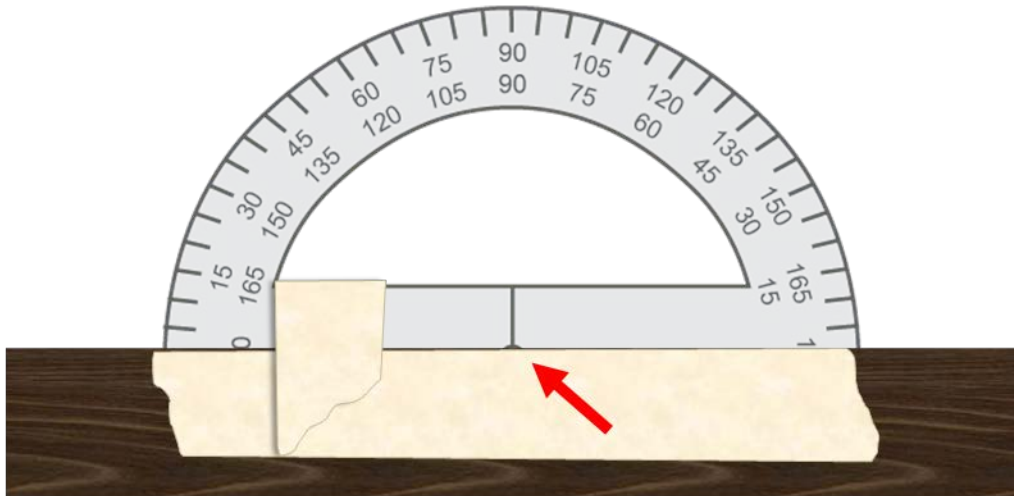

Figure 8: Protractor setup. The red arrow indicates the protractor origin.
1. Use the masking tape to secure a protractor to the edge of a flat surface, such as a table top (Figure 8).